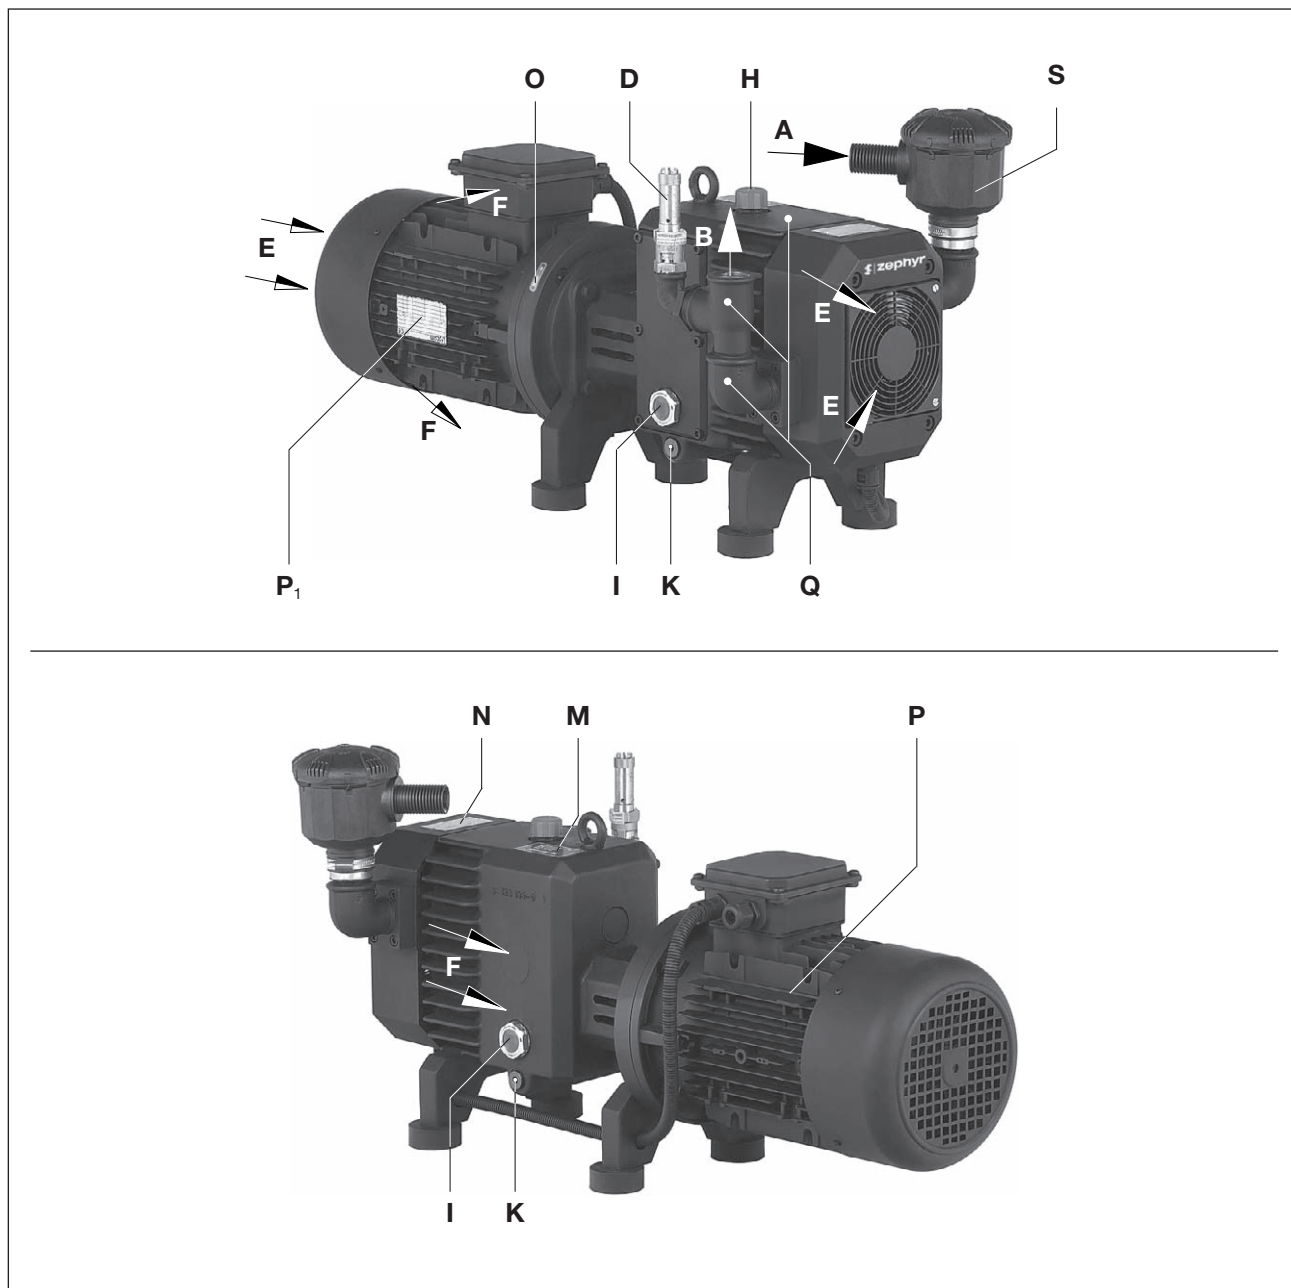
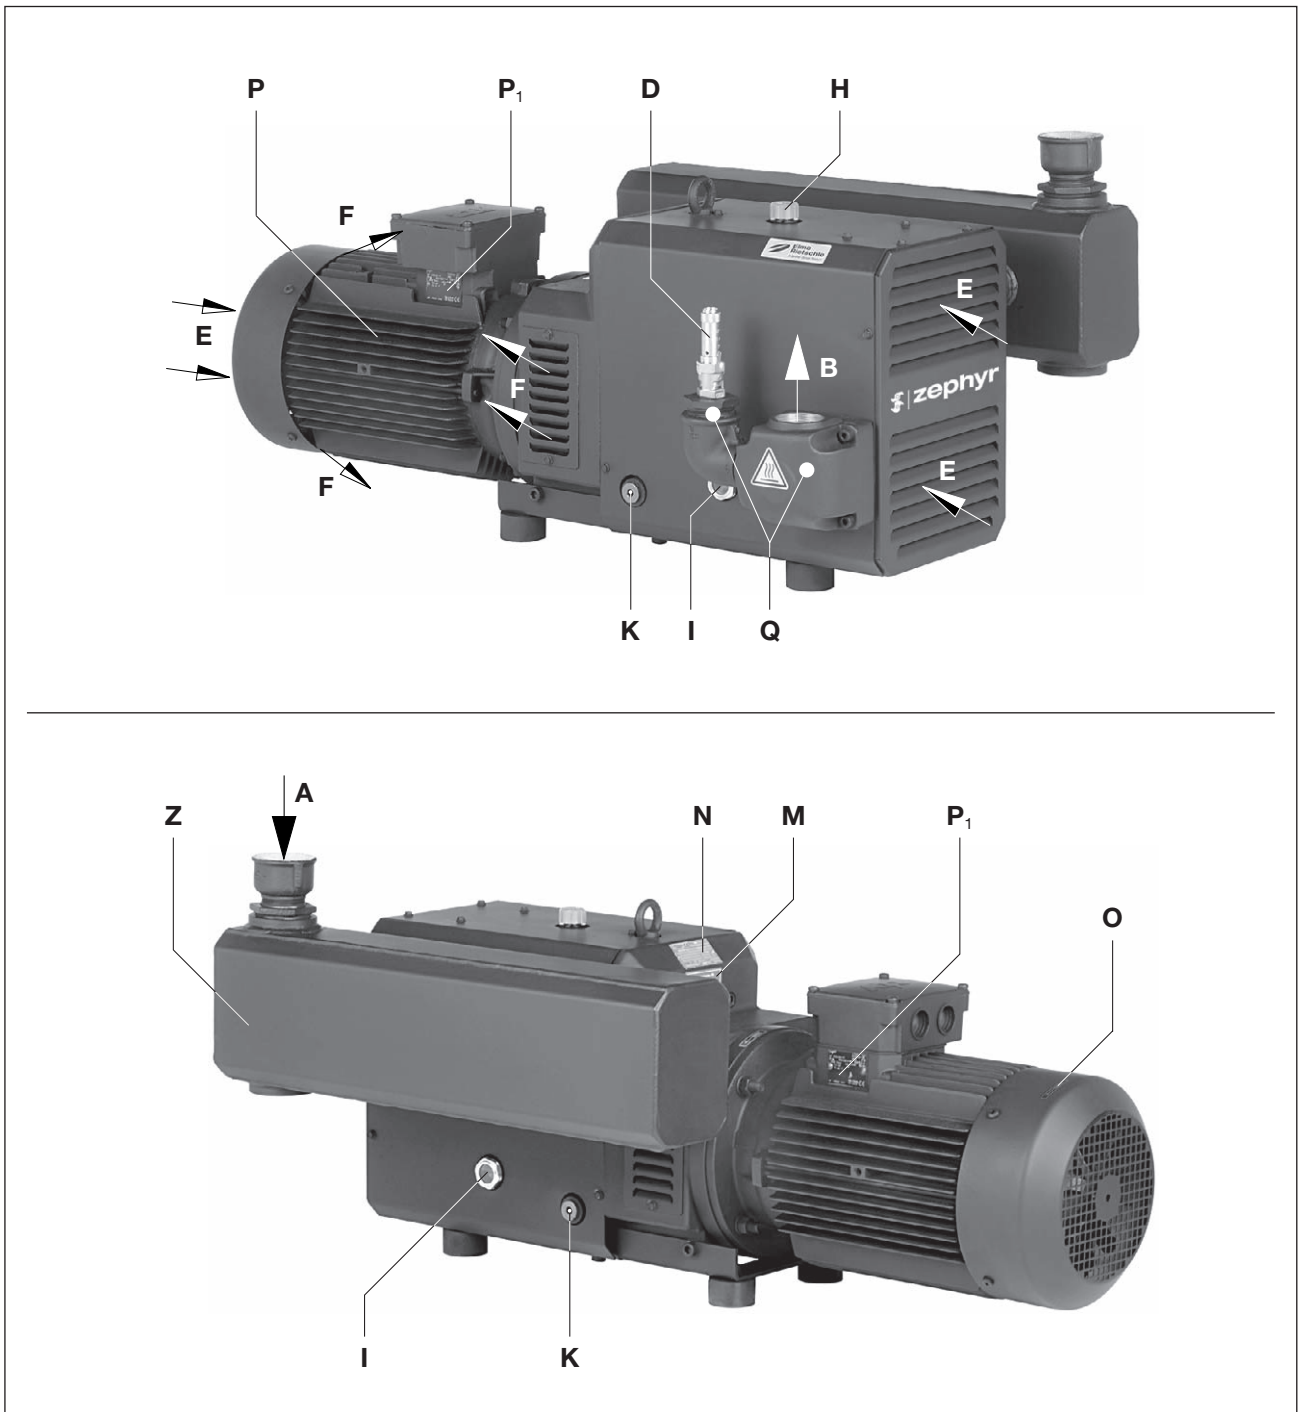

Fig. 2 C-DLR 60 compressor
Fig. 3 C-DLR 150 compressor
The C-DLR 100-500 are encapsulated by an insulating hood. In order to dissipate compression heat, the cooling air is sucked through between the machine and the hood using drum fan that sucks in the fresh cooling air (Fig. 3/E) and discharges the heated air out of the cooling air outlet (Fig. 3/F). The ZEPHYR DLR is driven by standard flanged three phase motors via a coupling (with an elastomer component).
To protect against overload a safety valve (Fig. 2/D... 4/D) is fitted as standard.
These contact free running claw compressors, C-DLR are suitable for creating excess pressure between 0 and the maximum limit (in bars) given on the data plate Fig. 2/N). Constant operation is permissible.
The oil filling point (Fig. 2/H... 4/H), oil sight glasses (Fig. 2/l... 4/l) and oil outlets (Fig. 2/K... 4/K) must be easily accessible.
The cooling air inlets (Fig. 2/E... 4/E) and cooling air outlets (Fig. 2/F... 4/F) must be at least 30 cm from adjacent walls. Cooling air coming out must not be sucked in again.
For maintenance work there must be a minimum of 40 cm in front of the inlet filter (Fig. 2/S) and the inlet silencer (Fig. 3/Z, 4/Z) .
- a) Pressure connection at (Fig. 2/B... 4/B).
As a protection against overload a safety valve (Fig. 2/D... 4/D) is installed as standard.
- a) Fill the lubricating oil (for suitable types see "Maintenance") for the gear wheels and oil filling point (Fig. 3/H) up to the middle of the sight glasses (Fig. 3/I).
- a) The motor's electrical data is given on the data plate (Fig. 3/N) or on the motor data plate (Fig. 3/P1). The motors comply with DIN EN 60034 and are in protection class IP55 and insulation class F. The appropriate connection diagram is located in the motor's terminal box (not for the plug connection version). The motor data must be compared with the data of the existing mains network (current type, voltage, network frequency, permitted current value).